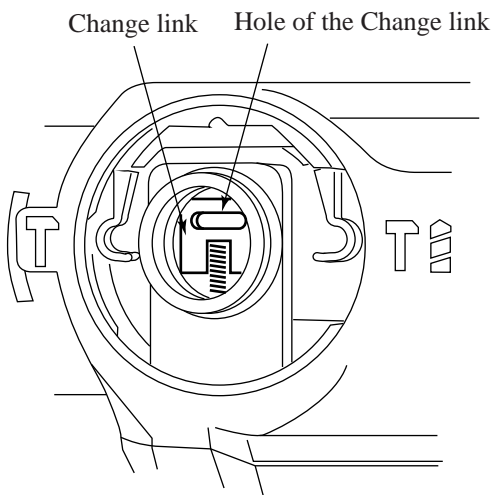

Figure 2
- a. Adjust Change link.(See the figure 2.)